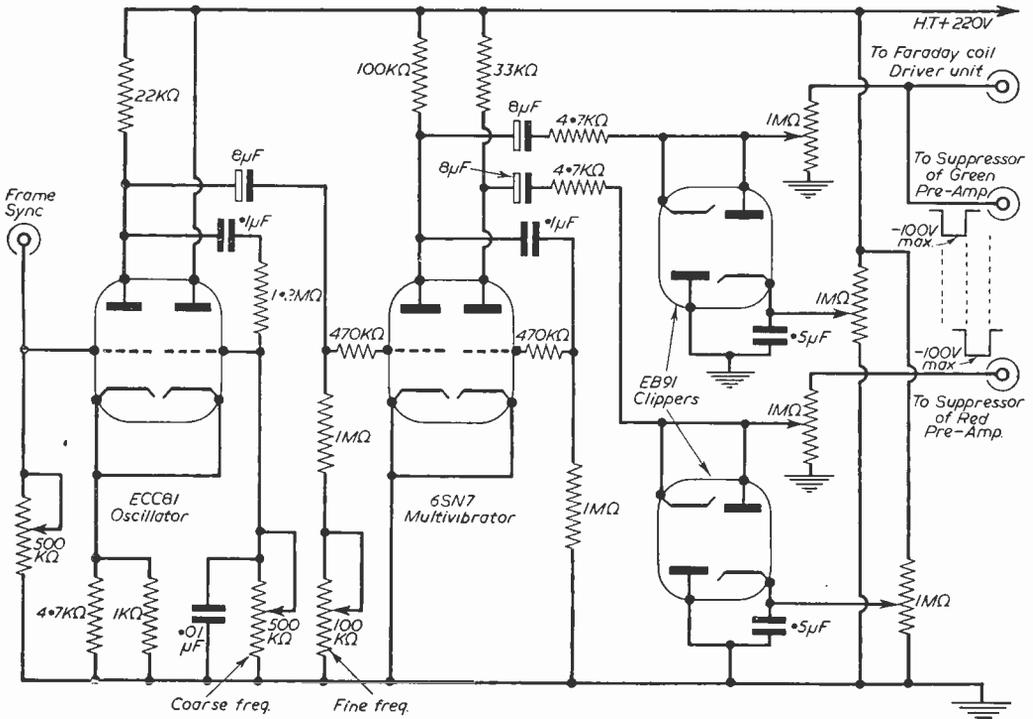

Fig. 8.—Circuit of the 25c/s double square-wave generator.
after passing through the Faraday cell and filter combination and the lens as shown in Fig. 5, may be projected on to a ground glass or specially prepared Perspex sheet fitted with a hood. The colour frame switching signals are taken from one output of the 25c/s double square wave generator, a circuit diagram of which is shown in Fig. 8. This output is then amplified
(1) The colour transparency is scanned by the projection tube raster (Fig. 1) and the transmitted light allowed to fall in even distribution on the photo-cells, one being covered by a fixed red filter and the other by a green filter. Associated with each photo-cell are the preamplifiers, one of which is shown in Fig. 2. These are capable of being switched alternately by feeding the generator outputs (Fig. 8) to the suppressors of the second amplifier valve.